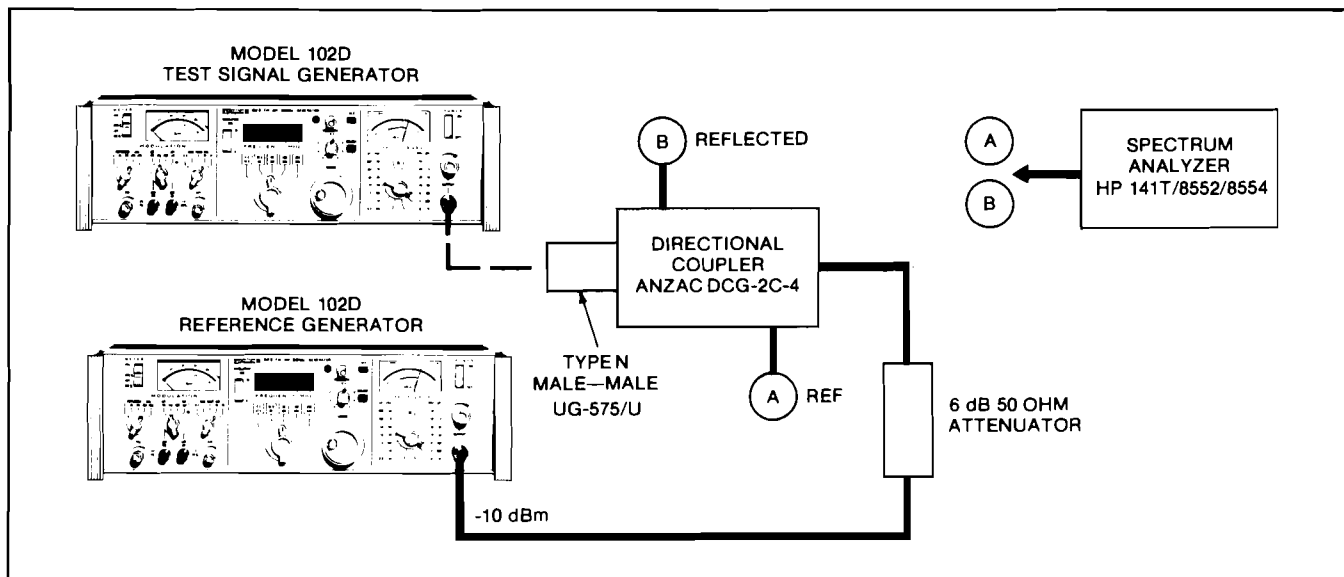

Figure 2-23 Output Impedance Check, Test Setup
a. Connect the Model 102D and test equipment as shown in Figure 2-23.
c. Connect the spectrum analyzer to point A in Figure 2-23. Adjust the spectrum analyzer controls as required to align the peak of the reference signal generator signal with the -30 dB graticule in the log display mode.
d. Connect the spectrum analyzer to point B in Figure 2-23 and observe the amplitude of the reference generator signal on the spectrum analyzer display. *The return loss, which is the difference between the amplitude observed in this step and the -30 dB amplitude of step c, should be at least 14 dB.*